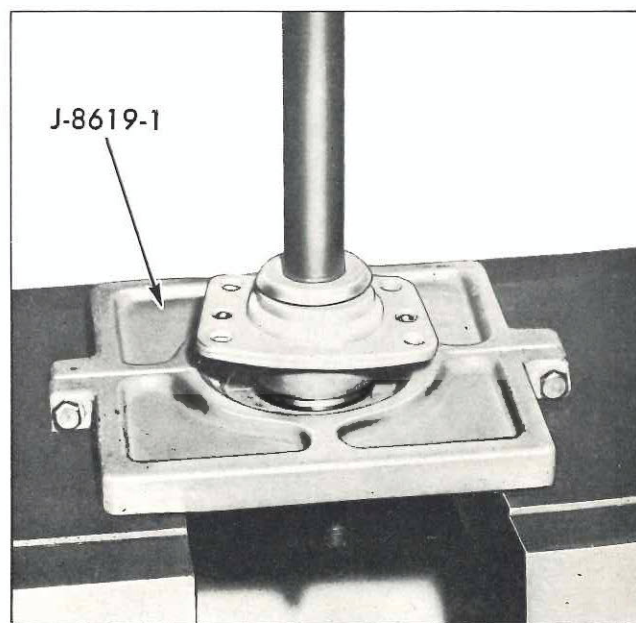

Fig. 2—Removing Bearing from Axle Shaft
1. Place axle shaft on press bed with J-8619-1 (or reworked J-5741) press plate below the bearing puller ring (Fig. 2). Press off deflector, bearing with shield, and puller ring. It